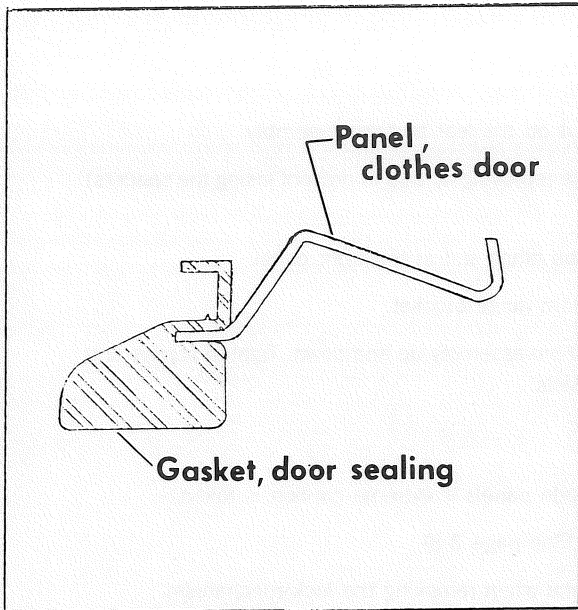

FIGURE 3-3
2. Position the door sealing gasket into the inner recess of the door panel. (See Figure 3-3, cross-section view.)